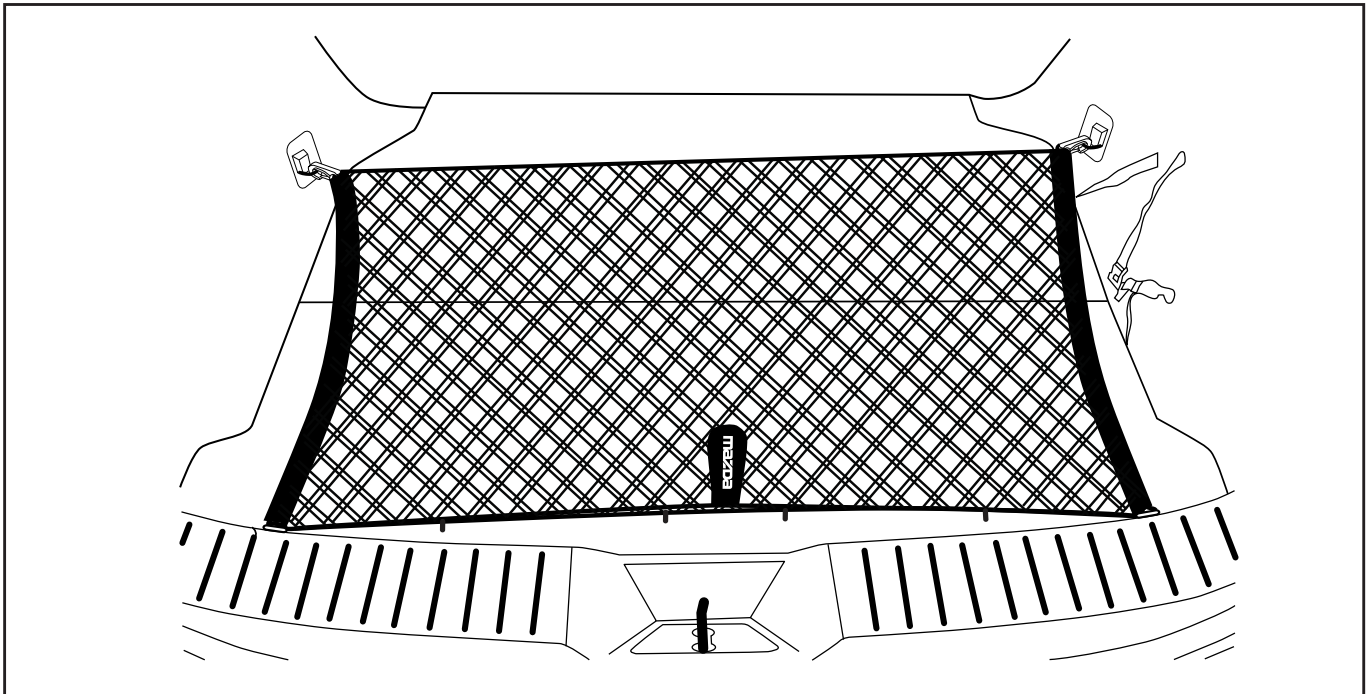

Fig. 15
16. Mount the cargo net – pull tab should be on the top side of the net (Fig. 15).